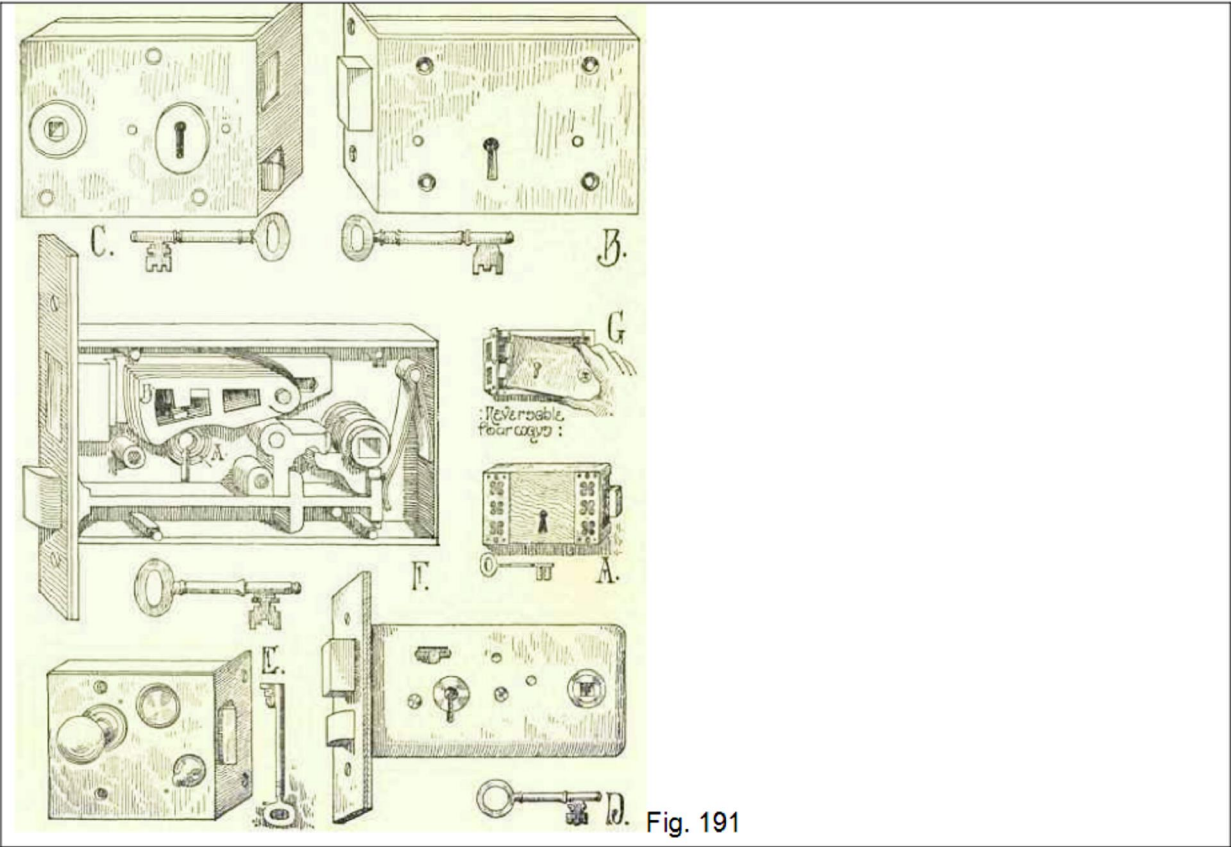

Fig. 191
Fig. 191 illustrates, at A, B, C, D, and E respectively, a single-bolt iron-bound stock lock (A), a rim dead lock (B), a two-bolt rim lock (C), a two-bolt mortice lock (D), and a rim night latch (E). Mortice locks can also be had of an upright form, suitable for doors with narrow stiles, and centre bit mortice locks are made to fit into the cavity drilled by a centre bit.